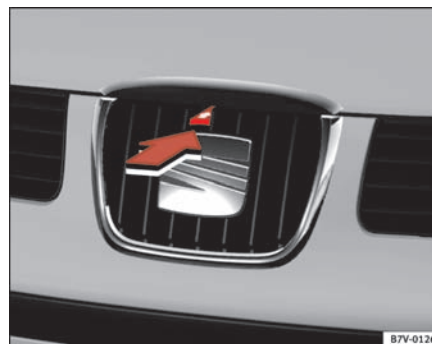

Fig. 140 Detail of the radiator grille: opening the bonnet
- Gently lift the bonnet and press the unlock button ⇒ **fig. 140** in the direction of the arrow.